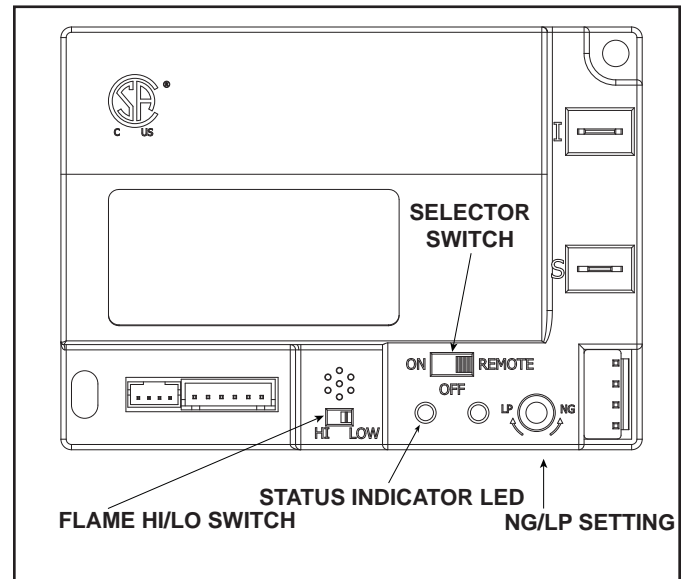

Figure 2.4 Control Module
1. The control module has an ON/OFF/REMOTE selector switch that must be set. See Figure 2.4.
2. If using a wired wall switch with the module in REMOTE mode, the flame output can be adjusted with the HI/LO selector switch on the module. See Figure 2.4. Note that the flame HI/LO selector switch will become inactive once an optional remote control (RC300) is programmed to the control module. Note that the control module will always ignite the fireplace on HI and remain so for the initial 10 seconds of operation. If the HI/LO is switched to the LO position, the flame output will automatically drop to the lowest setting after the flame has been established for 10 sec. After this 10 second period, the flame can be adjusted from HI to LO with the switch.
- Locate the module selector switch. (See Figure 2.4).
- Wait five (5) minutes to allow possible accumulated gas to clear.